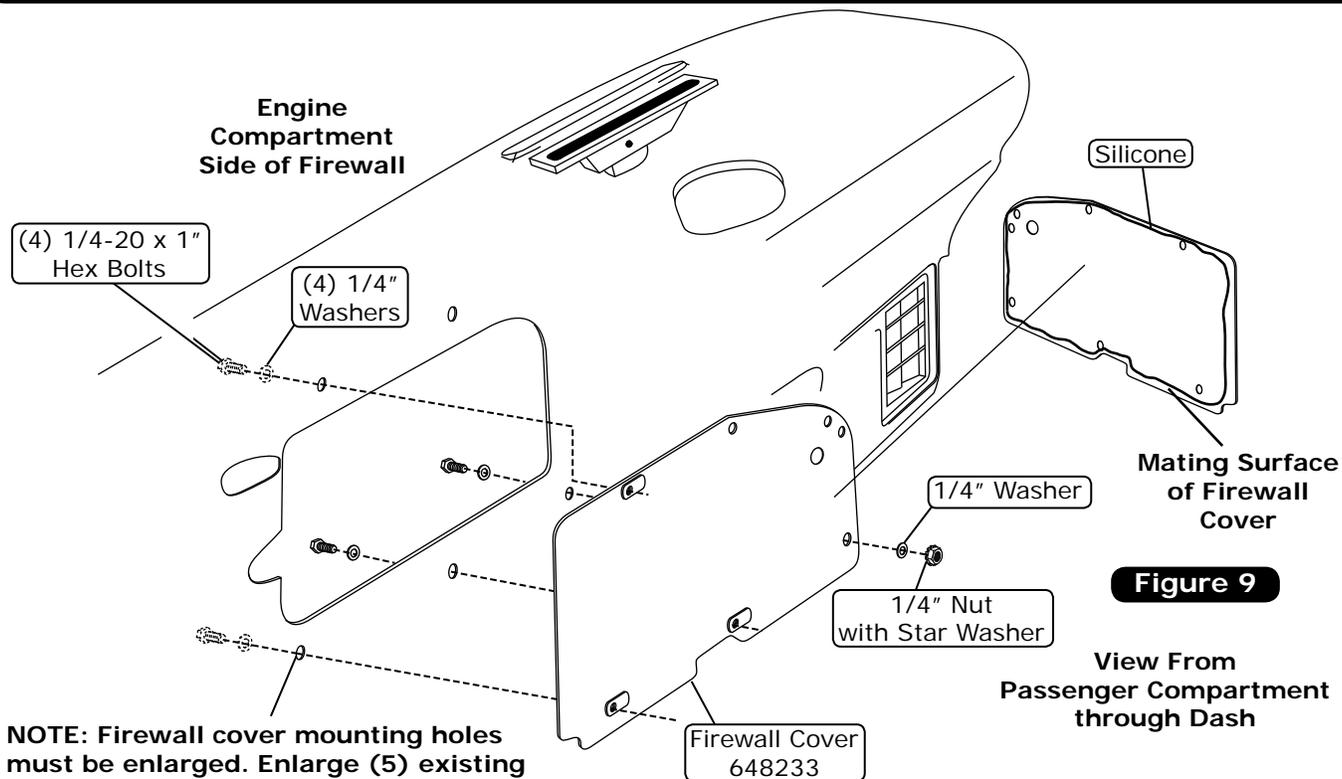

Figure 9
1. Enlarge (5) OEM holes in the firewall to 5/16" (See Figure 9, below).
2. Apply a 1/4" bead of silicone around the mating surface of the firewall cover (See Figure 9, below).
3. From the passenger compartment, install the firewall cover onto the firewall (See Figure 9, below). From the engine compartment, secure the firewall cover to the firewall using (4) 1/4-20 x 1" hex bolts, (5) 1/4" washers and a 1/4" nut with star washer (See Figure 9, below).